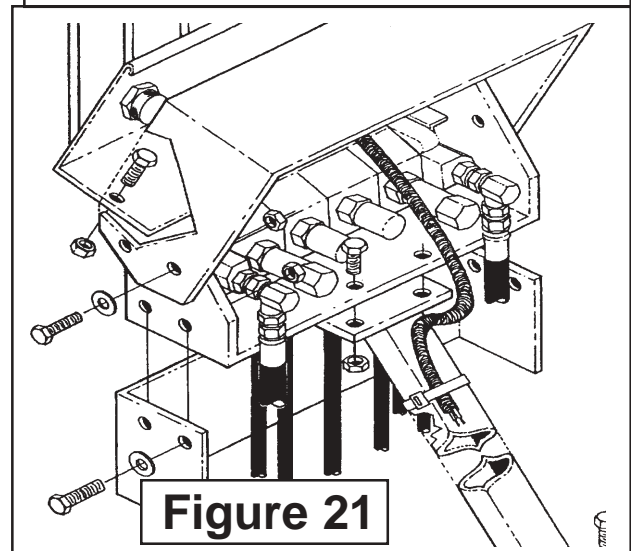

Figure 21
26. Install the small pump pressure hose to pump. The pressure hose connects to the RH side of the small pump and is run down the RH side of the frame with the return hoses (See Figure 21)
29. Connect Pressure & Return Hose to Cylinder Control valve. Connect the pressure hose running from the RH side of small pump to RH Top side of control valve, The port will be marked with a "P" cast into it, the other end is connected to the small supply pump (See Figure 21). Connect the return hose that is connected to the Tee Fitting of the return filter to the Return side of the control valve with a "T" cast into it (See Figure 24 & 25)
3. Attach Control Valve to the Valve Stand. Attach Control Valve to the Valve Stand with (2) 3/8" x 1" bolts, (2) 3/8" locknuts. Attach the Top Cover and the Bottom Cover to the Valve Mount Bracket with (8) 3/8" x 1" bolts, (8) 3/8 washers and (8) 3/8" locknuts (See Figure 21).